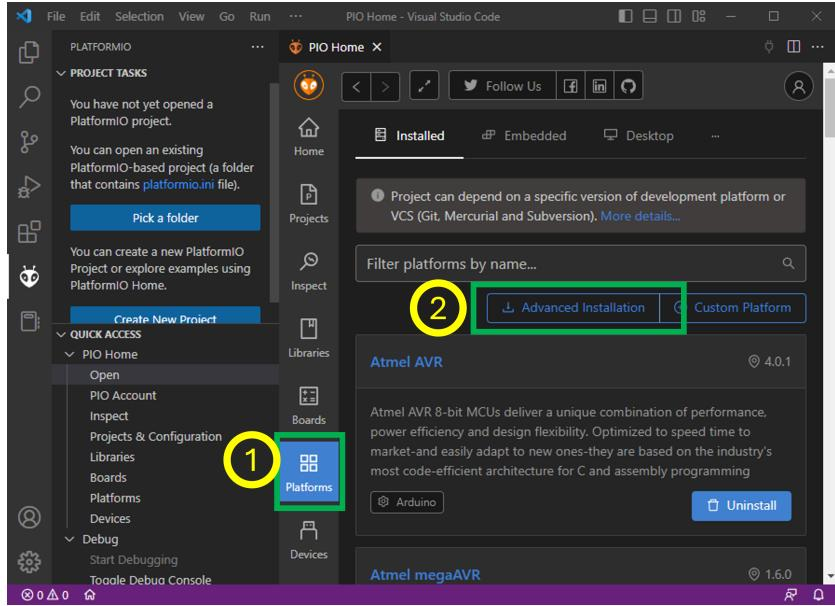

Figure 6: VSCode GUI highlighting "Platforms" sidebar and "Advanced Installation"
- In the PIO Home window, click on the "Platforms" sidebar and choose "Advanced Installation" as shown in Figure 6.